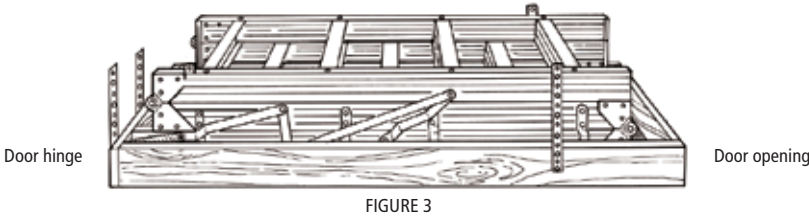

FIGURE 3
A. Attach four E–Z Hang temporary support straps to the frame. Refer to figure 3 and instructions listed below.